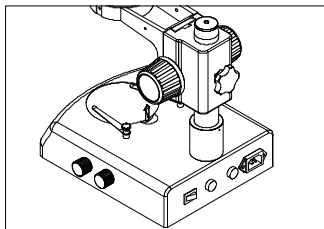

Fig.1
1) Press the glass stage on the sunken place then the other side of the glass stage will be lifted. (Fig.1)